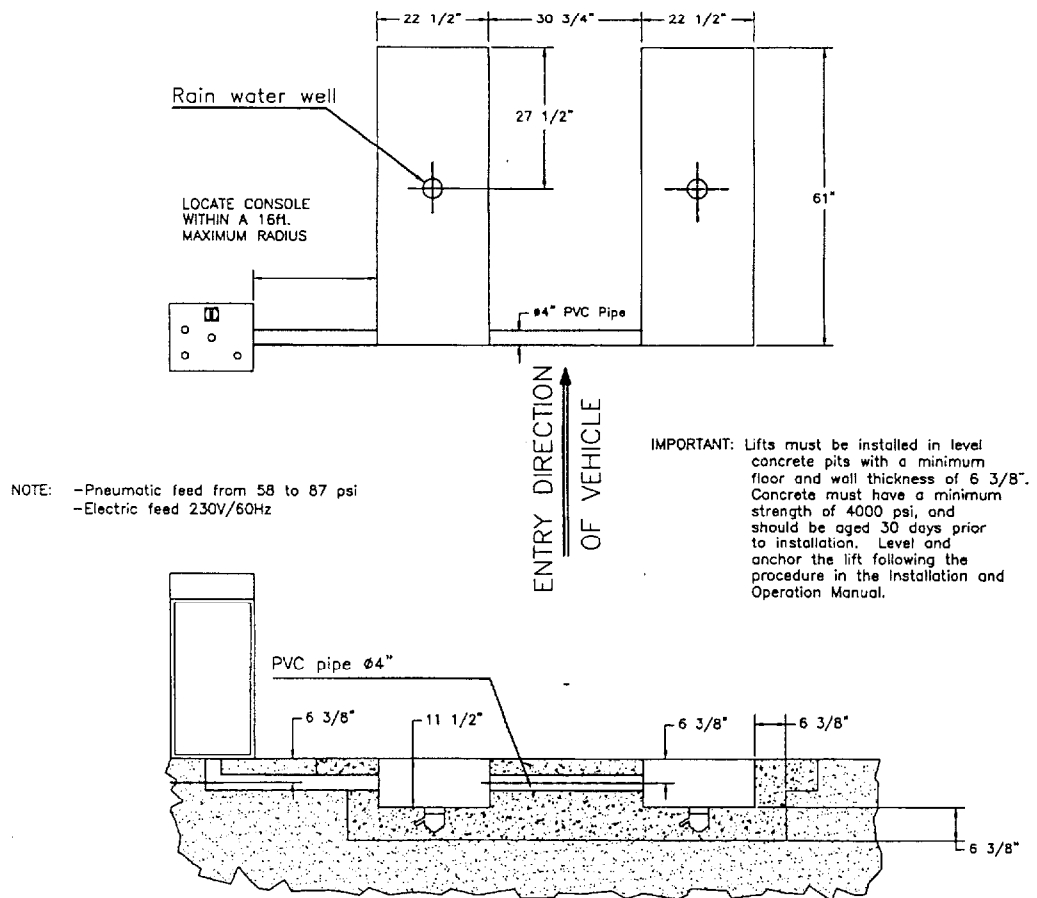

Figure 4 - Foundation Layout
1. Before installation, the bay layout should be prepared as shown in Figure 4. This can be completed with the aid of the In Ground Frame Kit (optional part # FR3.5).